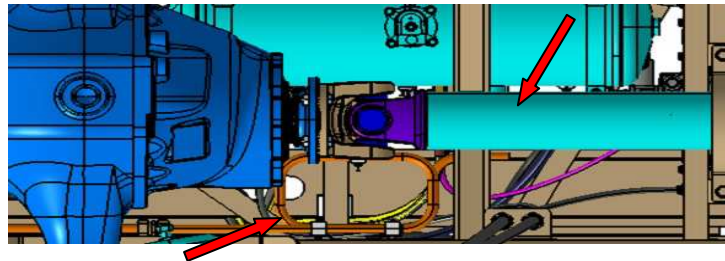

Figure-1A
*Remove the prop shaft and cooling coil shown in Figure-1A